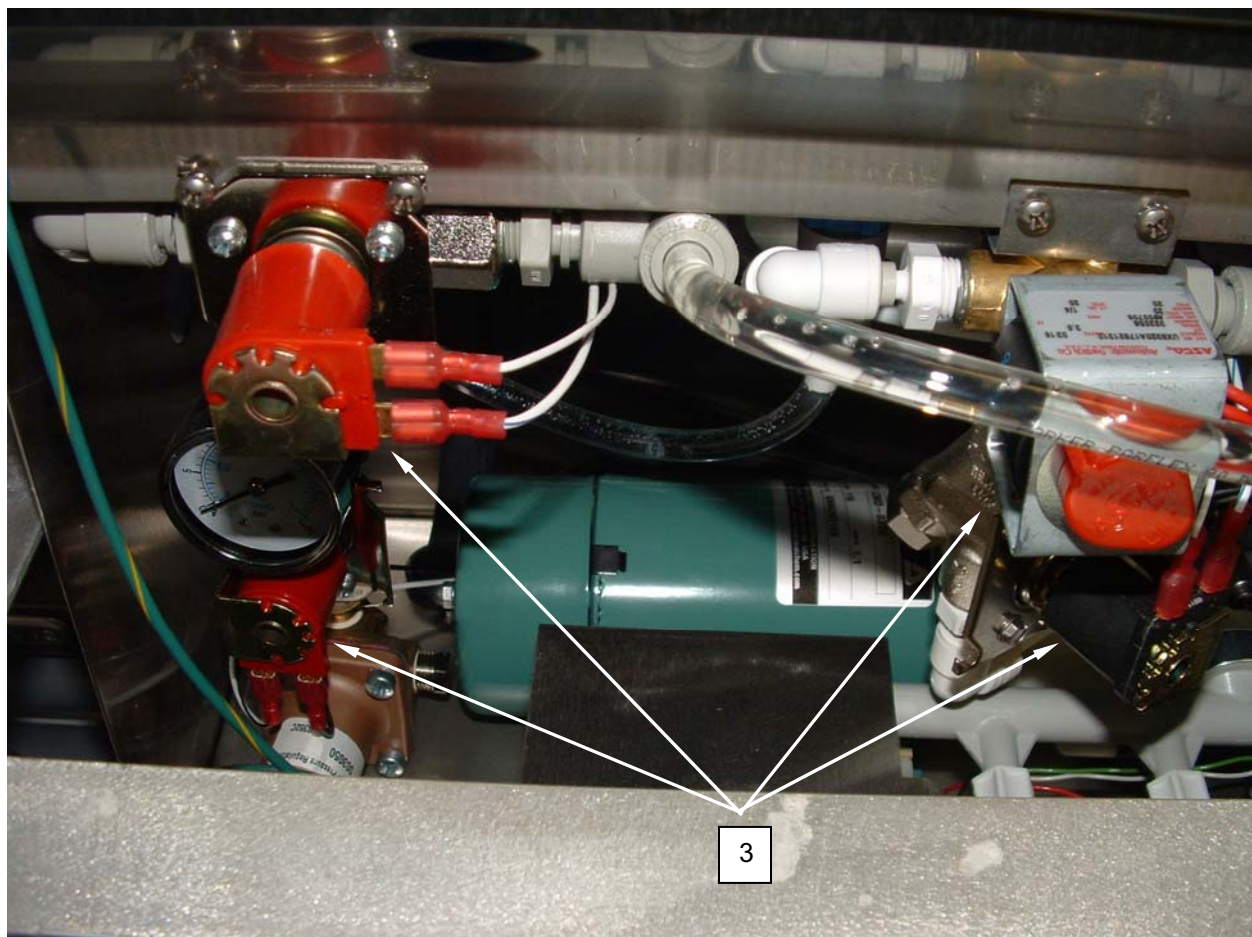

Figure 5. Replace the Solenoids.
2. Unlatch key lock and remove cover (**Figure 5, Item 2**).
3. Tag and disconnect the wiring from the solenoid (**Figure 5, Item 3**), and remove the solenoid.
4. Tag and disconnect the solenoid (**Figure 5, Item 3**) water connections.
5. Remove the screws retaining the solenoid (**Figure 5, Item 3**), and withdraw the solenoid from the automatic soap dispenser housing.
6. Install the solenoid (**Figure 5, Item 3**) into the automatic soap dispenser housing.
7. Connect the solenoid (**Figure 5, Item 3**) water connections as tagged.
8. Connect the wiring to the replacement solenoid (**Figure 5, Item 3**) as tagged.
9. Secure the solenoid (**Figure 5, Item 3**) to the automatic soap dispenser housing with screws.